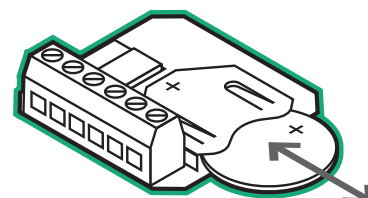

Fig.4
4. Slide the old battery out to the side, and replace with new CR2450 Battery - the Positive side of the battery should be facing towards you (furthest away from the PCB), see Fig. 4.